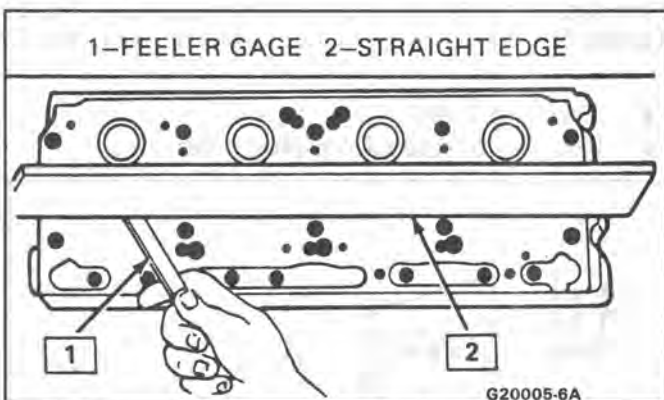

Figure 2 Checking Cylinder Head Flatness
4. Cylinder head deck, intake and exhaust manifold mating surfaces for flatness (Figure 2). These surfaces may be reconditioned by parallel grinding. If more than .39 mm (.010") V6, or .152 mm (.006") V8 must be removed, replace the head.